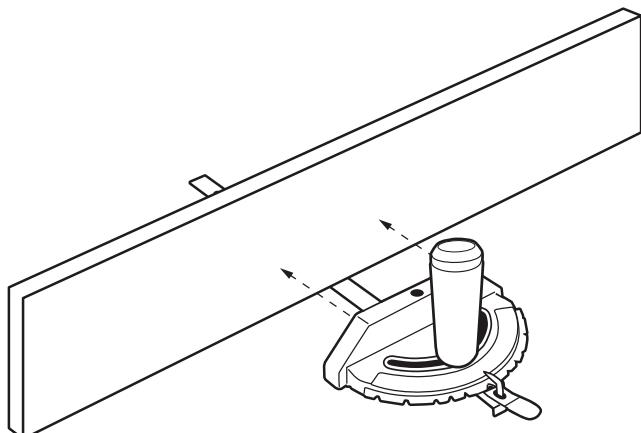

FIGURE 26
This auxiliary wood facing can be fastened to the front of the miter gauge by using (2) M6 or 1/4-20 flat head screws and nuts, placing the nuts into the slots provided in the face of the miter gauge body (Fig. 26).